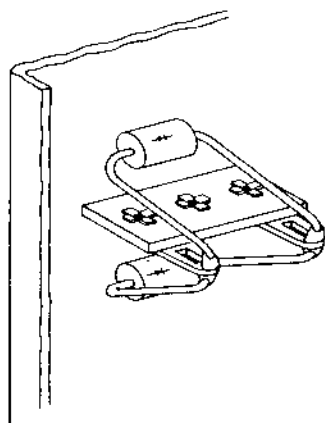

Figure 12A. Installation of Second Diode
b. Servicing - Check amplifier and power supply for frayed wires and burned or damaged components. If only one diode (17, Figure 28) is used, add a second diode in parallel. Connect leads of the diode to terminal strip (29) as shown in Figure 12A, so that its polarity is the same as that of the first, and solder in place.